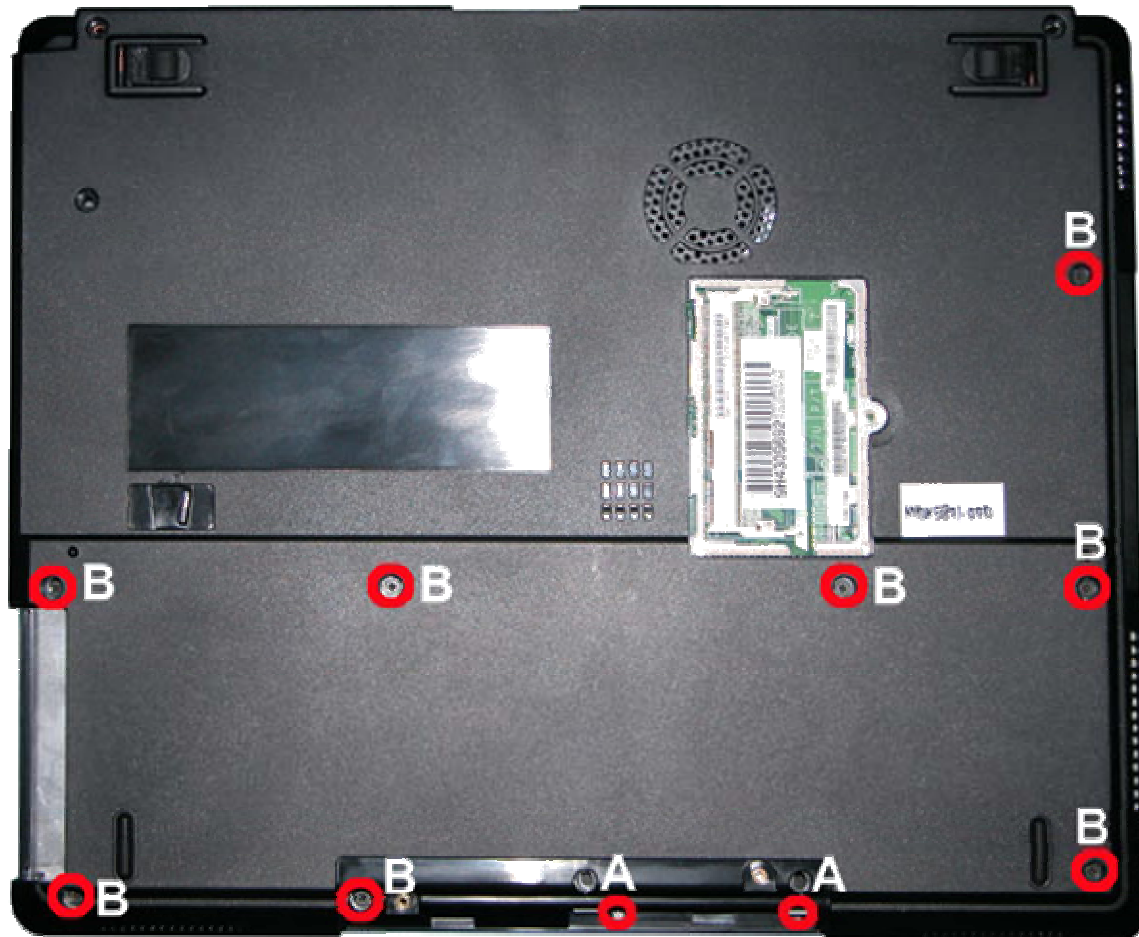

Fig. 27 Bottom Cover
1. Remove all screws on the bottom of the base unit as shown in Fig. 27